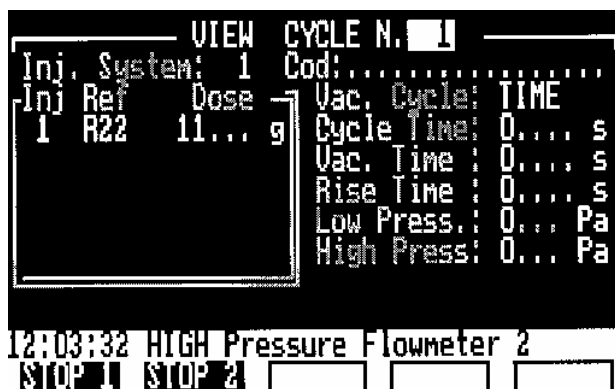

Figure 6.1 View Cycle window
- **INJECTION SYSTEM NUMBER** (*Injec. Syst...*: 1 in figure 6.1).
- **REFRIGERANT FLUID DOSE:** to charge through each filler of the injection system used (in the proper field are specified filler (*Inj*), refrigerant (*Ref*) and dose (*Dose*): *Inj* = 1, *Ref* = R22 and *Dose* = 11 g in fig. 6.1)
- **BAR CODE FIELD:** it is an 18 alphanumeric characters string which identifies the cooler circuit type on which the working cycle must be performed (*Cod.*: in figure 6.1).
- **EVACUATION MODE** of the cooler circuit (*Vac. Cycle.* in figure 6.1). There are 2 modes:
- **VACUUM TIME:** it is the maximum time to perform the vacuum into the cooler circuit (*Vac. Time.* in figure 6.1). Its use depends on the EVACUATION MODE.
- **LEAK TEST TIME:** When this time expires the vacuum value must be under the VACUUM HIGH THRESHOLD (*Rise Time* in figure 6.1), otherwise the time still available of the TEST TOTAL TIME is used, for both TIME and LOW modes, performing another (only one) evacuation phase and another leak test phase.
- **TEST TOTAL TIME:** it is the maximum time to perform the EVACUATION and LEAK TEST OPERATIONS (*Cycle Time* in figure 6.1). If the EVACUATION OPERATION is correct and the LEAK TEST fails, the time still available of the TEST TOTAL TIME is used to perform a new evacuation leak test. If the following leak test fails again an alarm occurs and the working cycle stops, otherwise the following charging operation starts.
- **VACUUM LOW THRESHOLD:** it is the vacuum threshold to reach during the EVACUATION OPERATION to start the following phase (*Low Press:* in figure 6.1).
- **VACUUM HIGH THRESHOLD:** it is the vacuum threshold not to exceed during the LEAK TEST PHASE to start the following phase (*High Press:* in figure 6.1).